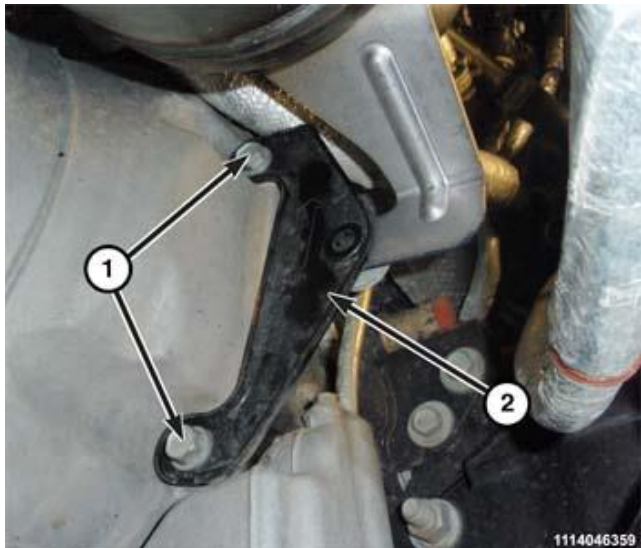

Figure 43 – Front Steady Bracket Bolts
89. Remove the bolts (1) and the front steady bracket (2) (Figure 43).
20. Install the front steady bracket (2). Tighten the bolts (1) to 55 N·m (41 ft. lbs.) (Figure 43).